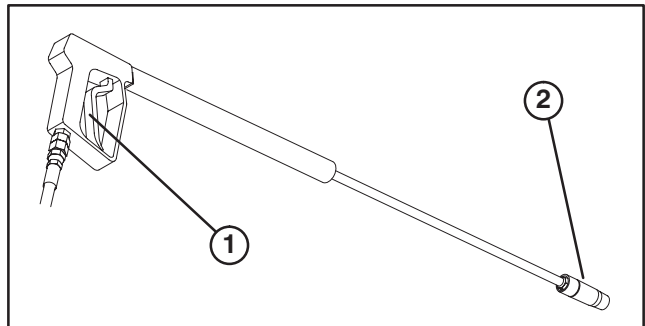

Figure 6
Spray Gun Trigger (Fig. 6) – Pull to start pressure spray application of soap solutions or pressure spray rinse.
Spray Gun Nozzle (Fig. 6) – Pull / push nozzle to start application of soap solutions or pressure spray rinse. Rotate nozzle to adjust spray pattern.
11. Rotate nozzle on end of gun to adjust spray width (Fig. 6).
12. If using a soap solution, pull spray gun nozzle toward handle to activate solution (Fig. 6).